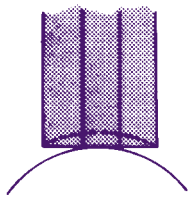

fig. 1
- the radius of curvature of the commutator is very small - **especially if split brushes are involved** (*fig. 1 reverse side*).